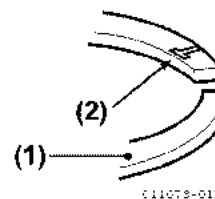

**Figure 5-91**
- Push the piston ring into a cylinder and measure the piston ring gap with a feeler gauge. Push the ring to about 30 mm (1.2 in.) from the bottom of the cylinder skirt (**Figure 5-91**).